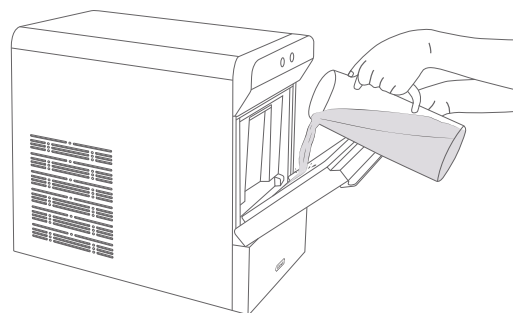

Figure 7
2. Open the front lid, remove the ice basket, fill the water reservoir with potable water and close the lid. (See Figure 7).